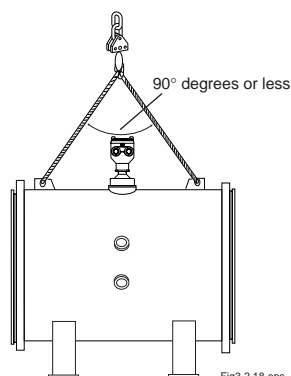

Figure 3.3.6 Lifting Flowtube
- To assure safety, keep lifting angle less than 90 degrees as shown in Figure 3.3.6
(3) Positioning Flowtube